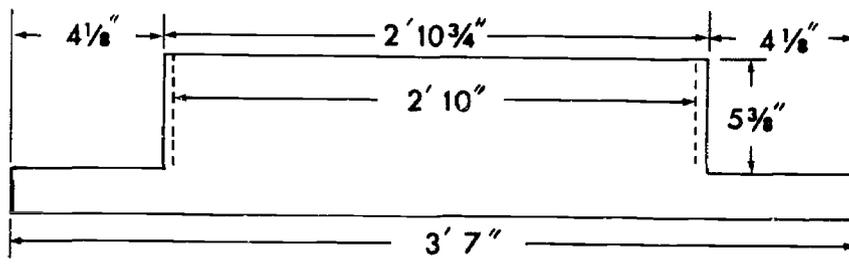

FIGURE 8
(2) One-piece sill: Where a one-piece sill is used as in the alternate sill, Figure 7, its length will be equal to the width of the outside casing, or  $2' 10'' + (2 \times 4 \frac{1}{2}) = 3' 7''$ . The sill must be relished beneath the outside casings as shown in Figure 8.
If the sill is of one piece, it is taken to the Universal saw or special dado machine and the ends are relished as shown in Figure 8.